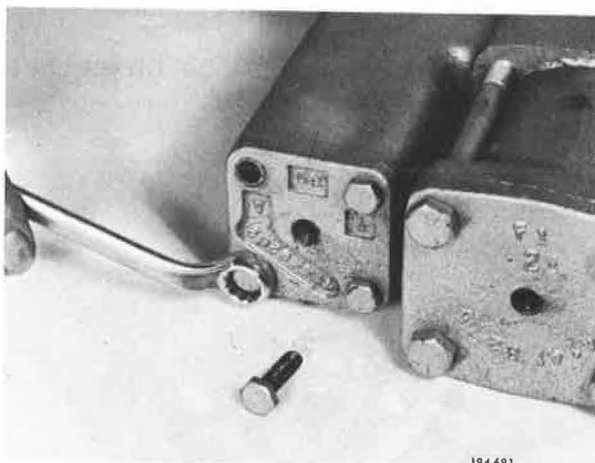

Figure 5-446. Installing Capscrews
21. Install reverse shift cover capscrews, and tighten to recommended torque. Refer to Torque and Tolerance Table, Item 14. See Figure 5-446.